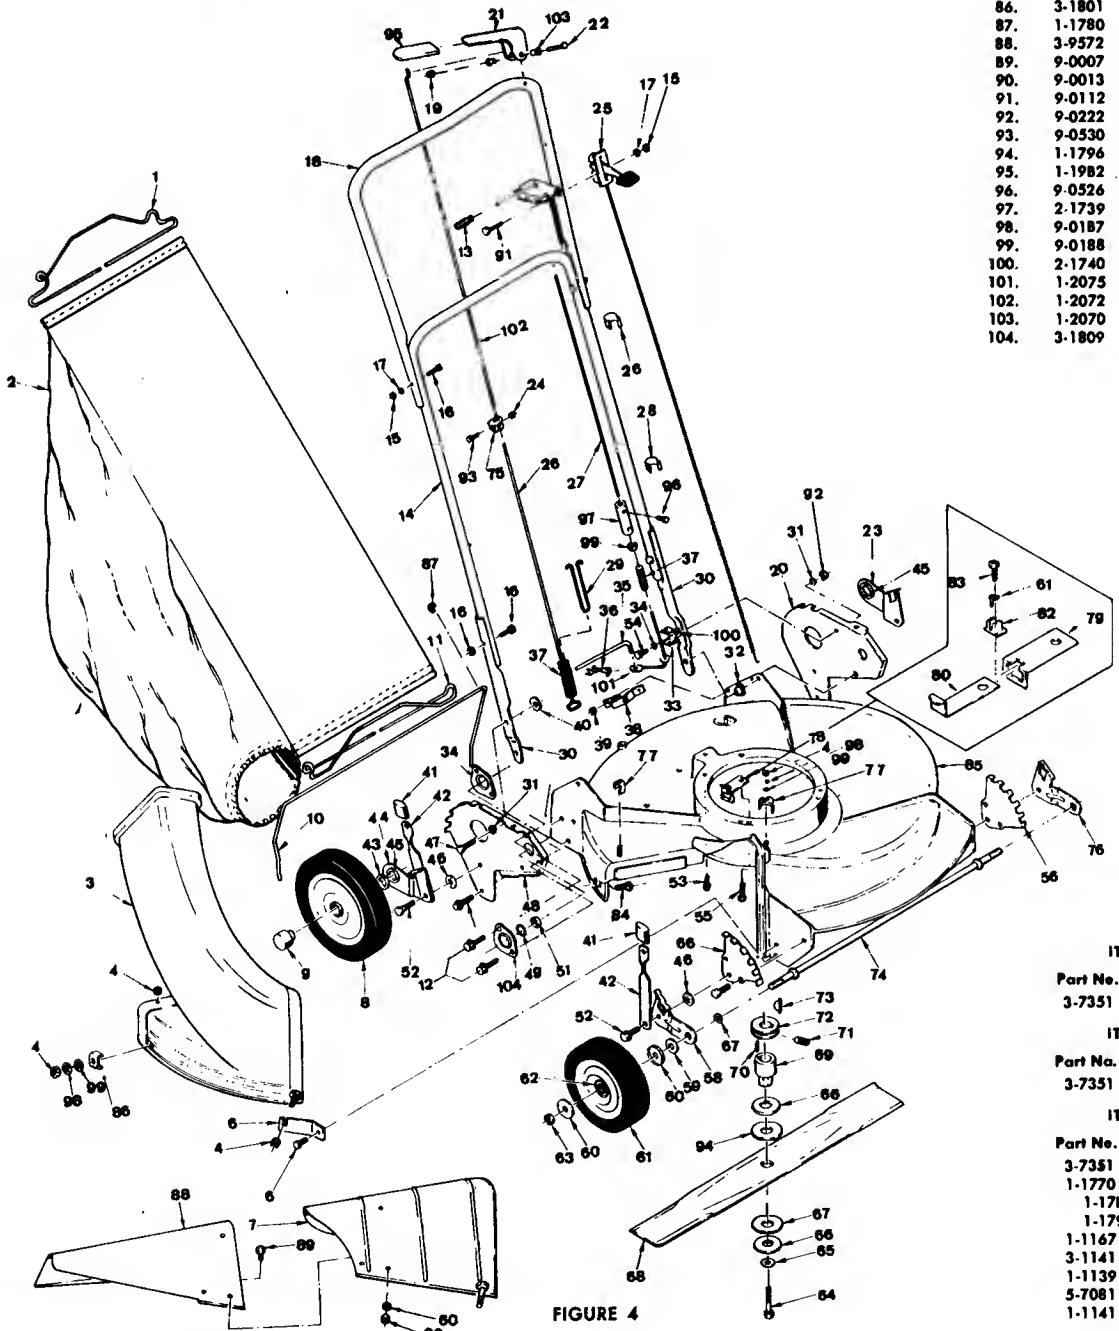

FIGURE 4
4. Slip the ends of front wire, Item No. 11, through the front flap of the bag and hook over the rail bar, Item No. 10, as shown in figure 4. Slip the ends of the rear wire, Item No. 1, in the rear flap and hook over the top section of the lower handle pivoting, Item No. 14. If top of bag is not taut, remove and shift front and rear wires to inboard flaps and replace. Now slip inlet neck of bag, Item No. 2, over bag chute as far as possible. Do not allow side of bag to block discharge opening of chute. Stop engine and empty bag of grass clippings at rear opening before bag is ever filled or bag chute will become clogged. NEVER ATTEMPT TO CLEAR BAG CHUTE IF CLOGGED UNLESS ENGINE IS STOPPED AND SPARK PLUG WIRE IS DISCONNECTED.